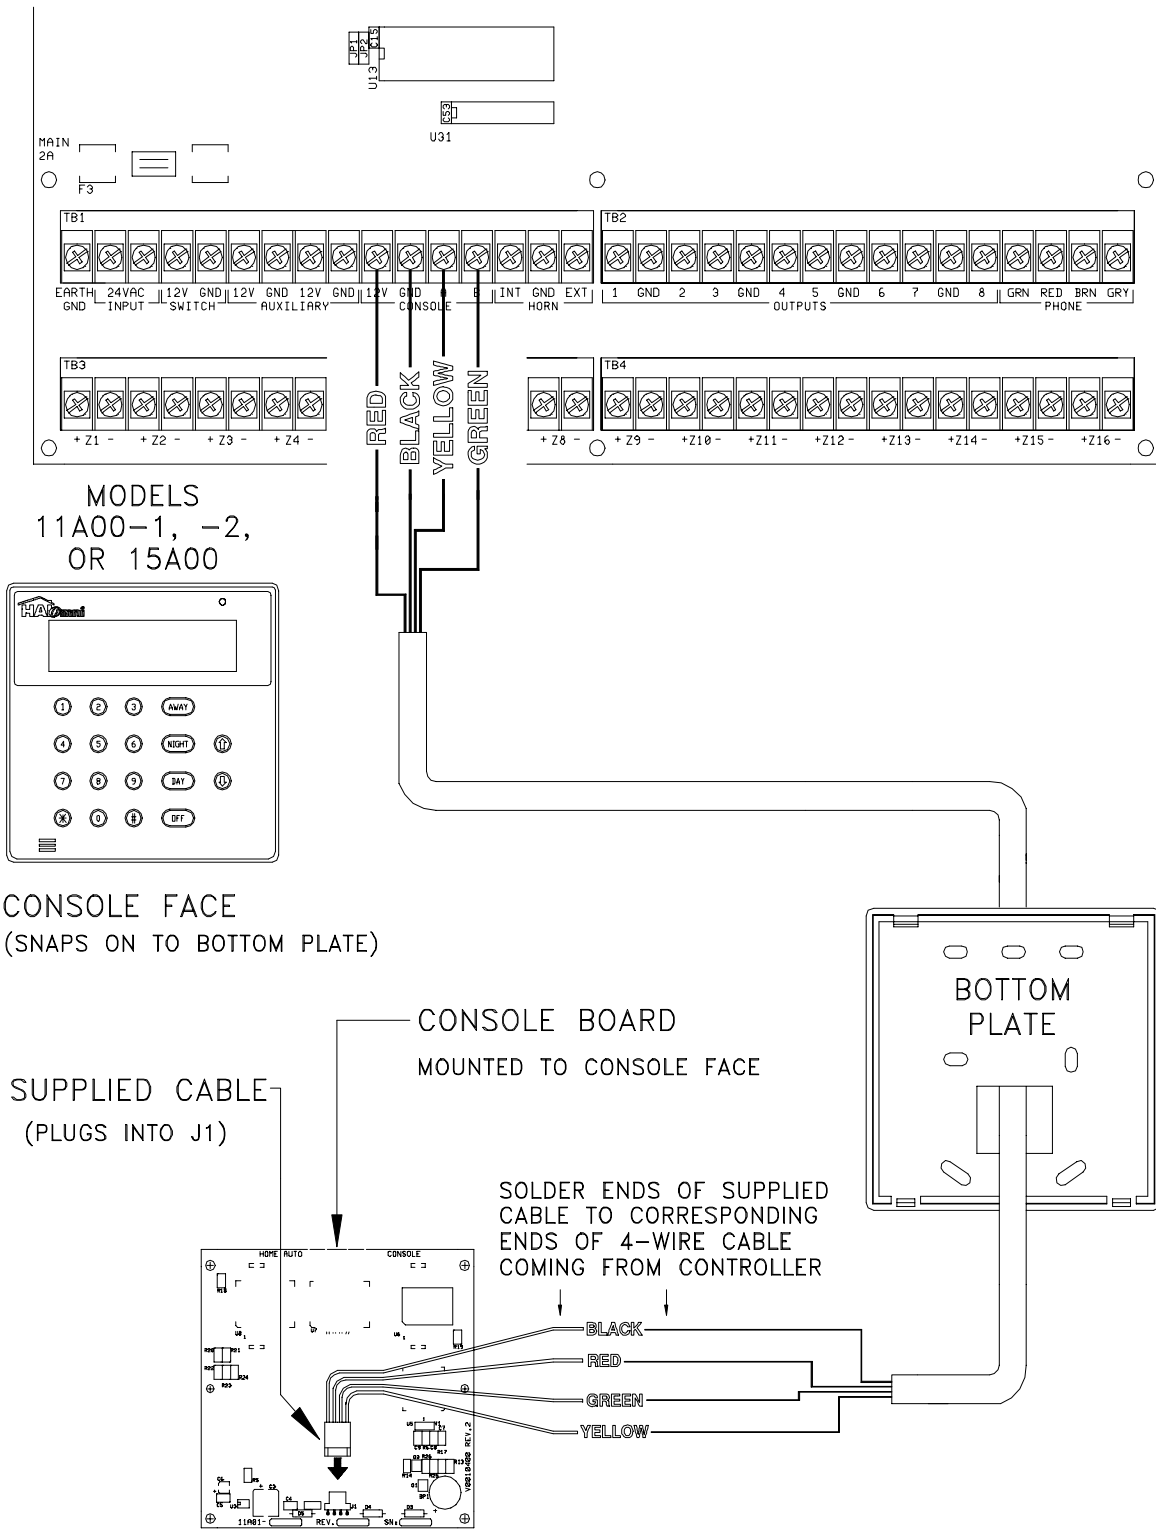

FIGURE 5
5. Refer to **FIGURE 5 (CONSOLE CONNECTIONS)** for this configuration.